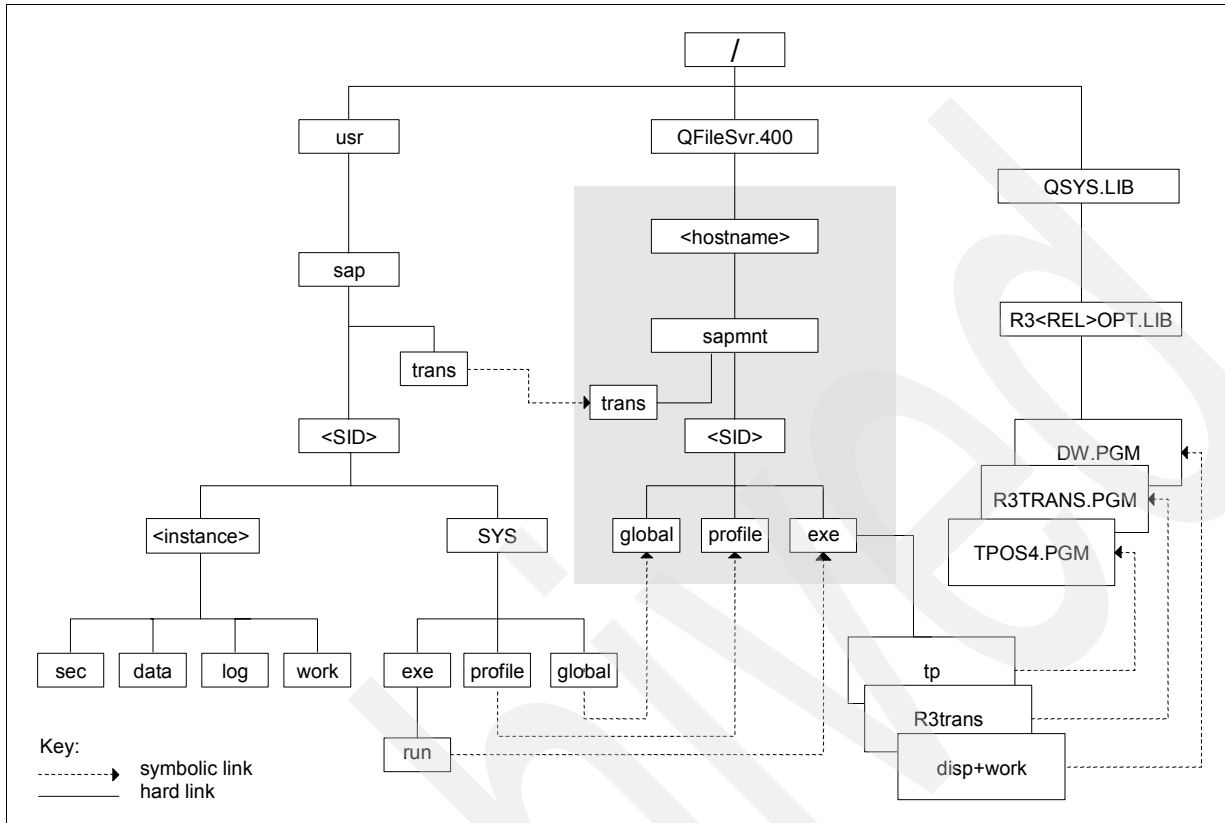

Figure 8-9 SAP Integrated File System directory structure
Figure 8-9 shows a part of the SAP directory structure on System i models. The directory structure starts with the root (/) file system.
The Integrated File System directory for SAP systems consists of several file systems. Figure 8-9 shows the following three:
The `/sapmnt/trans` directory (shown in the shaded box in Figure 8-9 on page 66) is used by the SAP Transport Management System (TMS) to transport the SAP system objects between different systems. For more information about the Transport Management System, refer to 14.4, “Global transport directory” on page 189.
The `/usr` directory, shown on the left-hand side of Figure 8-9 on page 66, contains all stream files used by SAP applications, including the profiles and SAP log files.
Note: In Figure 8-9, several kernel programs, such as Disp+Work (DW), are shown in QSYS.LIB. This is only valid prior to 6.40. In 6.40 and later, DW is moved to the Integrated File System. There is a program object named DW in the kernel library which is just a wrapper to call the PowerPC executable.